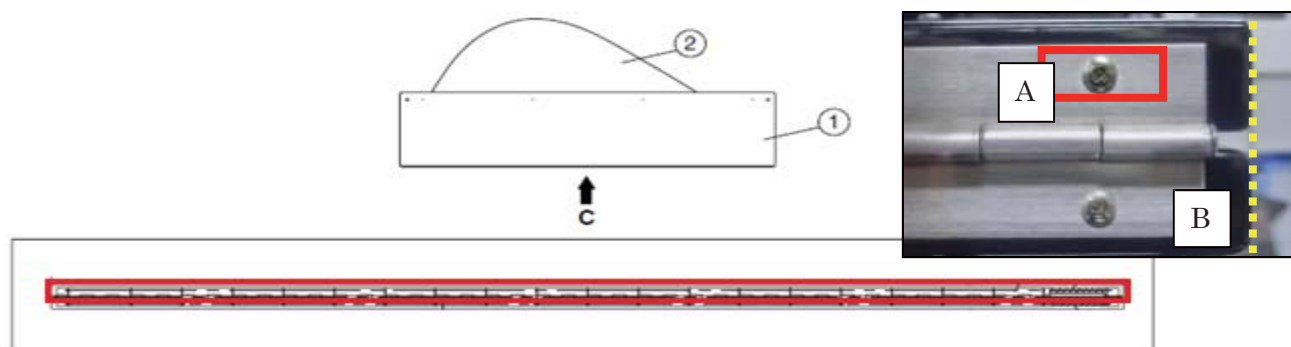

Fig. 1 Top board (F) and top board (B) relative positions
- 3-1 Fold the top board (F), and remove the screws on the top board (F) side of the long hinge that clamp the top board (B) and top board (F).
- Fold the top board (F) as shown below, and remove the 21 truss screws in the red-framed section (A) in the photo.
- 3-2 Dismantle the top board (F) and remove from the main unit. (Fig. 1)
- 3-3 Mount the top board (F) assembly dedicated service part (ZE082300) over the top board (B) so that the attached top board (F) fits over it.
- 3-4 Adjust left and right so that there is no dimensional difference between the top board (F) and top board (B) edges as aligned along the dotted yellow line (B). (Fig. 1)